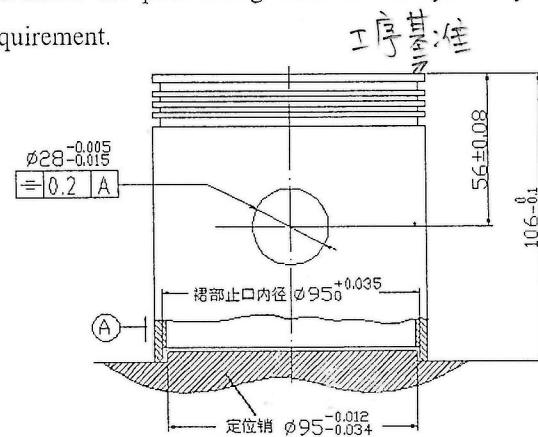

Figure 2
7. Figure 2 is a machining and positioning diagram of piston and pin hole. The piston has a full height of $106_{-0.1}^0$ mm, pin hole position of 56 ± 0.08 mm and symmetry requirement of 0.2 mm. Please analyze (16 points):